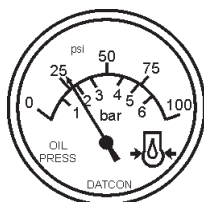

Figure 36. Oil Pressure Gauge
8. The engine oil pressure gauge (Figure 36) will indicate the oil pressure of the engine. Under normal operating conditions the oil pressure is approximately 35 to 65 psi. (241~448 kPa). When starting the generator.